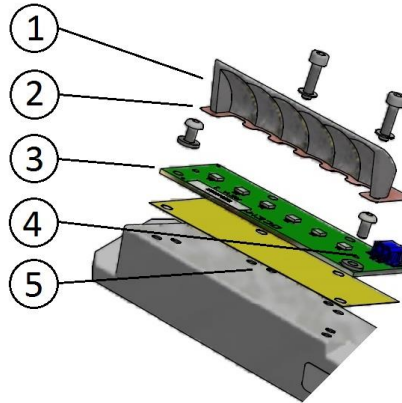

Figure 24 – LED Module Replacement
- disconnect the power supply connector from the LED module (Figure 24 – n°4)
- remove the LED module (Figure 24 – n°3) and the relevant reflector (Figure 24 – n°1) from the mounting plate unscrewing the two screw HSCS M3x12
- check that the thermal interface (Figure 24 – n°5) is placed under the LED module and right-positioned
- check that the Kapton insulating sheet (Figure 24 – n°2) is placed over the LED board is lying down and right-positioned
- reconnect the power supply connector (Figure 24 – n°4) to the LED module